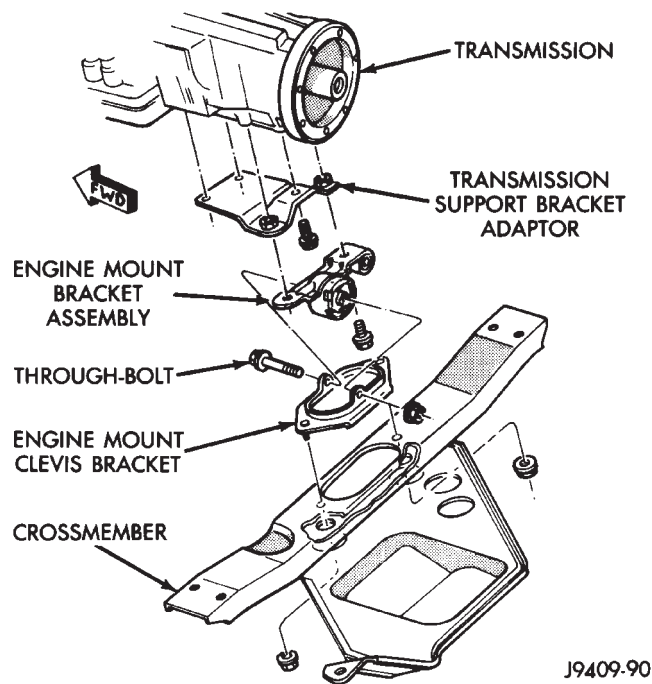

Fig. 17 Engine Rear Support Assembly
- (1) Disconnect the negative cable from the battery.
- (2) Raise the vehicle on a hoist.
- (3) Support the transmission with a jack.
- (4) Remove engine mount bracket thru-bolt (Fig. 17).
- (5) Raise the transmission and engine SLIGHTLY.
- (6) Remove stud nuts attaching engine mount clevis bracket to crossmember (Fig. 17). Remove bracket.
(7) Remove the engine mount bracket assembly from the adaptor (Fig. 17).
(8) If required, remove the transmission support bracket adaptor.
(1) If the transmission support bracket adaptor was removed, position the adaptor to the transmission (Fig. 17). Tighten the bolts to 60 N·m (44 ft. lbs.) torque.
(2) Install the engine mount clevis bracket onto crossmember. Tighten the stud nuts to 41 N·m (30 ft. lbs.) torque.
(3) Install the engine mount bracket assembly to the adaptor. Install the bolts and tighten to 75 N·m (55 ft. lbs.) torque.
(4) Lower the transmission and engine while aligning the engine mount bracket assembly to the engine mount clevis bracket.
(5) Install thru-bolt and tighten the nut to 65 N·m (48 ft. lbs.) torque.
(6) Remove transmission jack.
(7) Lower the vehicle.
(8) Connect the negative cable to the battery.